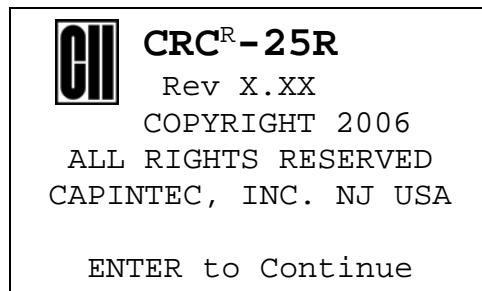

Figure 4-5
6. The unit should now display the CRC®-25R start up screen (Figure 4-5)